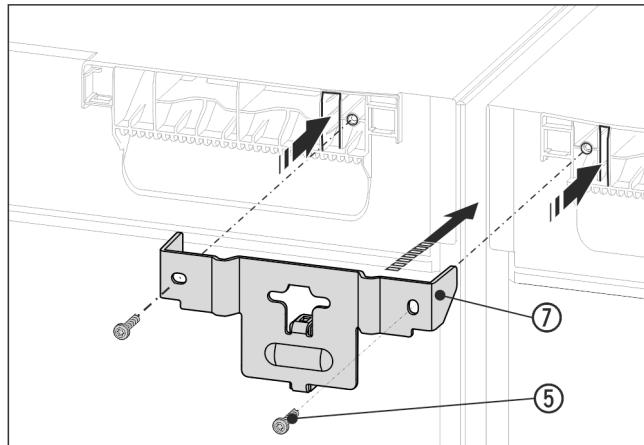

Fig. 13 Example illustration
- ▶ Slide the bracket Fig. 13 (7) onto the appliance ceiling with the lugs and with the spacer between the appliances. Screw in firmly with 2 screws Fig. 13 (5).